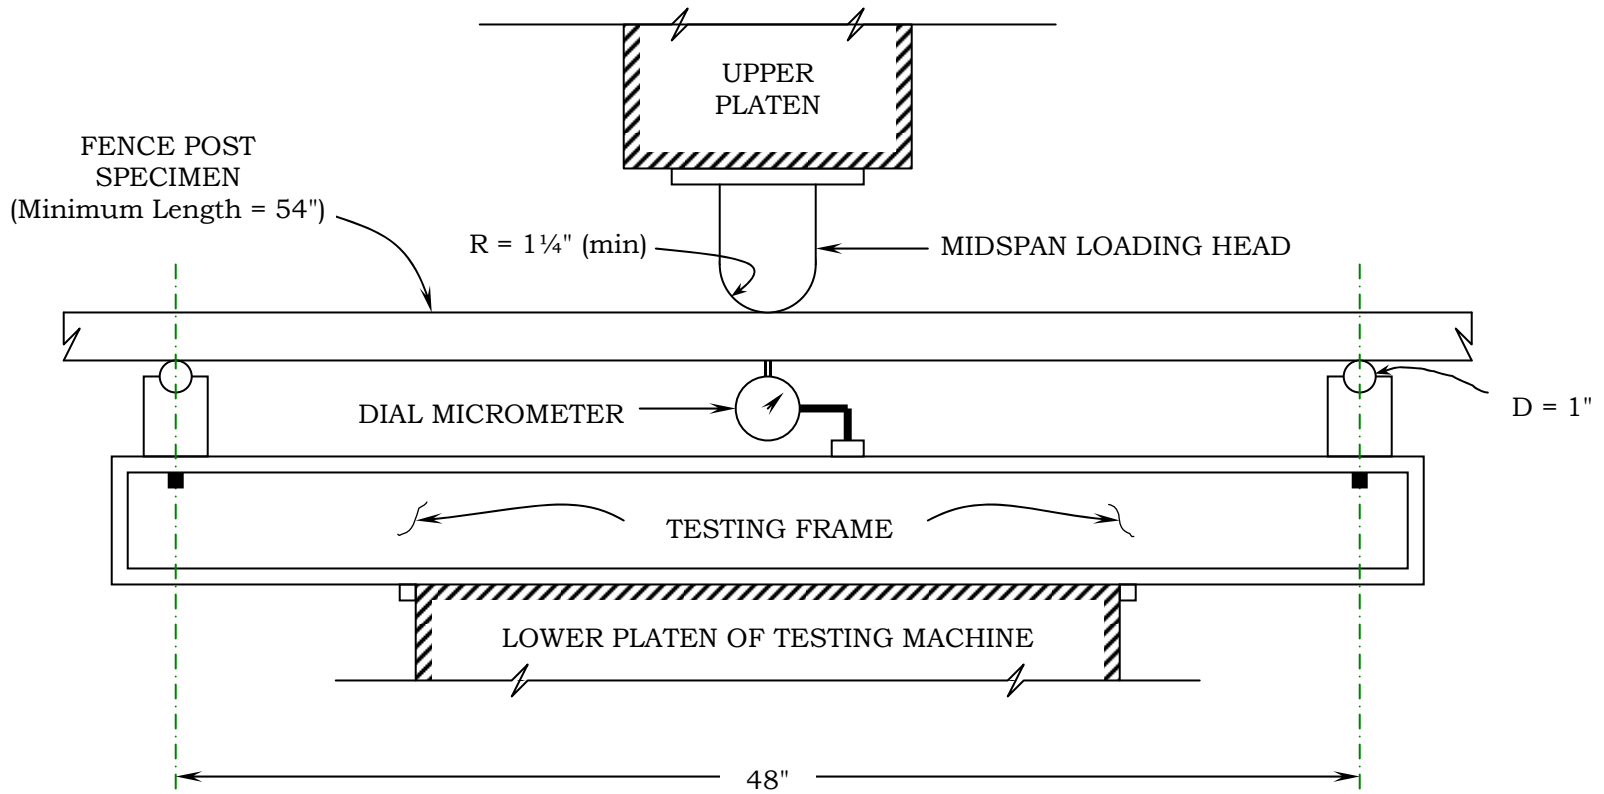

FIGURE 1. FENCE POST TESTING SYSTEM
2. A testing frame and loading head similar to that shown in Figure 1.